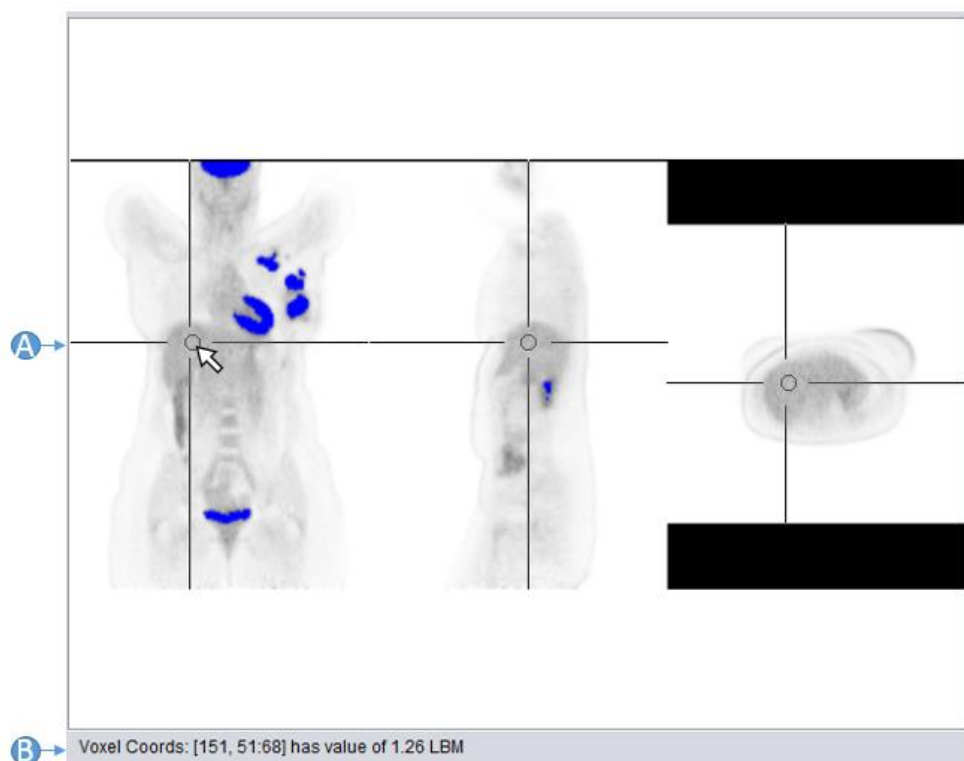

Figure 6-6 Auto-PERCIST™ TCS Display Mode
In Figure 6-6, the display is in the TCS display mode format. The display has been auto-triangulated to the center of the automatically located normal reference tissue VOI (A). Tissue objects with SUV-LBM values greater than the PERCIST threshold have been identified and are overlaid in blue. Cross-hairs indicate the current cursor position, while the voxel reporter on the bottom of the screen (B) provides the coordinates and value for that particular voxel.